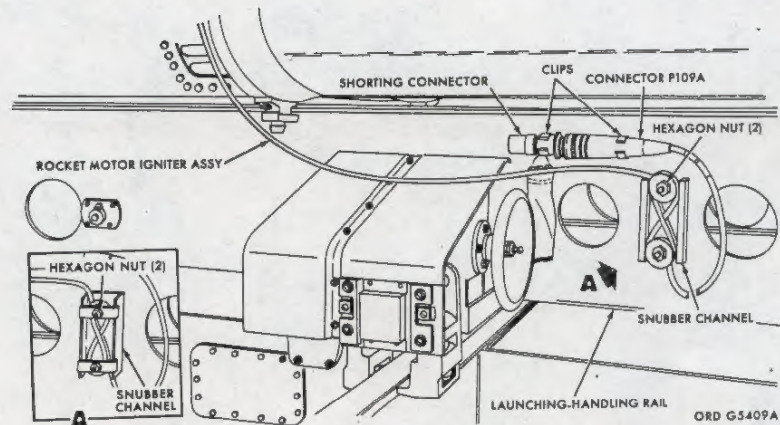

Figure 3-24. Igniter cable assembly stowed in snubber channel.
- (10) Connect the rocket-motor igniter cable assembly to the igniters, making sure that the shorting connector is installed at the end of the cable. Install the cable assembly in the launching-handling rail snubber channel (fig 3-24).